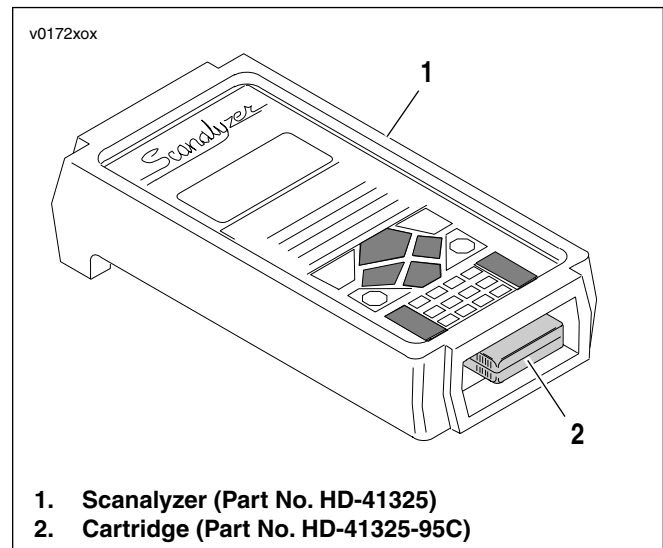
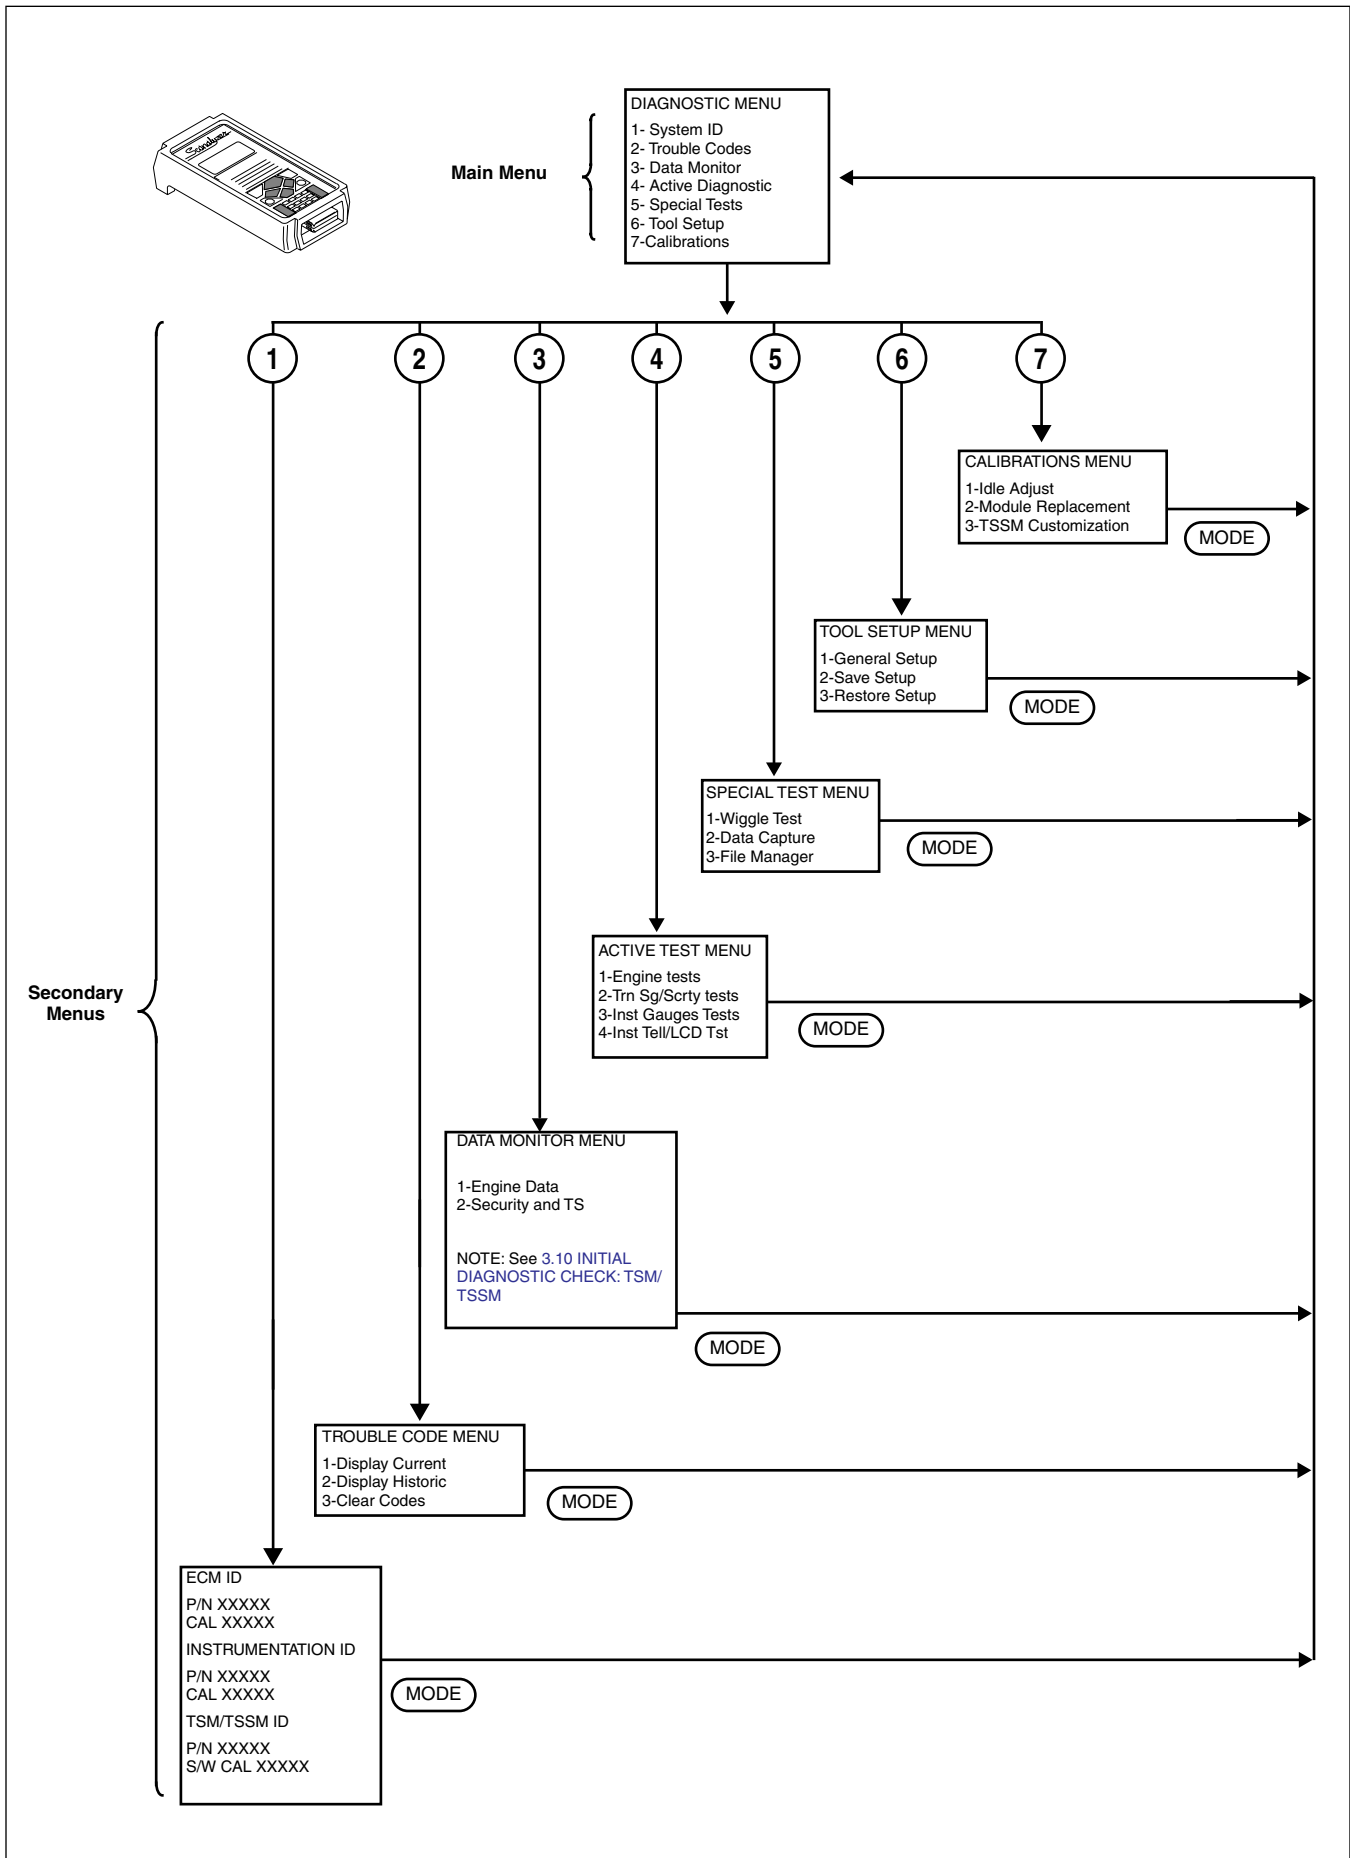

Figure 3-12. Scanalyzer and Cartridge
Figure 3-13. Scanalyzer Menus
See Figure 3-12. Through a special programmable application cartridge, the Scanalyzer offers data displays and menu selections that allow for quick and easy retrieval of data. The device enables the user to perform a variety of diagnostic tests while monitoring inputs and outputs.
Sample Scanalyzer menu selections are shown in Figure 3-13.
5. See Figure 3-12. Insert the diagnostic application cartridge (2) into the Scanalyzer (1). During the next few seconds, the Scanalyzer sequences through a series of screens that reflect a power-on self test, the system copyright, and then an attempt at communications with the ECM and turn signal module (TSM) or turn signal security module (TSSM). Once communications is established with both modules, the diagnostic menu appears. See Figure 3-13.
See Figure 3-13. The diagnostic menu is the primary system menu (main menu) through which all other secondary menus and displays are accessed. Since the screen may not be large enough to display all line items at any given time, use the up and down arrow keys to scroll through the list.